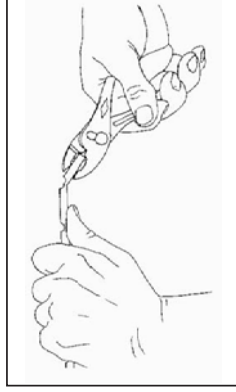

FIG. 3-SHORTENING THE BULB HOLDER.
- 3 Break off bulb holder to desired length, as shown in Fig. 3. NOTE: Holder should be long enough to hold sensing bulb in freely circulating air, away from duct wall. Neatly coil any excess capillary tubing at controller case or at bulb holder.